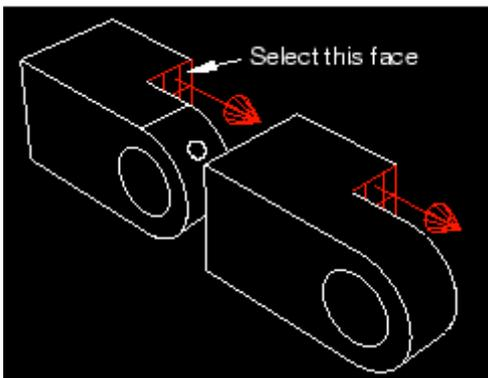

Figure C-25 Select a face on the fixed instance.
3. From the fixed part instance, select the face of the hinge piece with the lubrication hole shown in Figure C-25. Abaqus/CAE highlights the face on the movable part instance in red and the face on the fixed part instance in magenta.